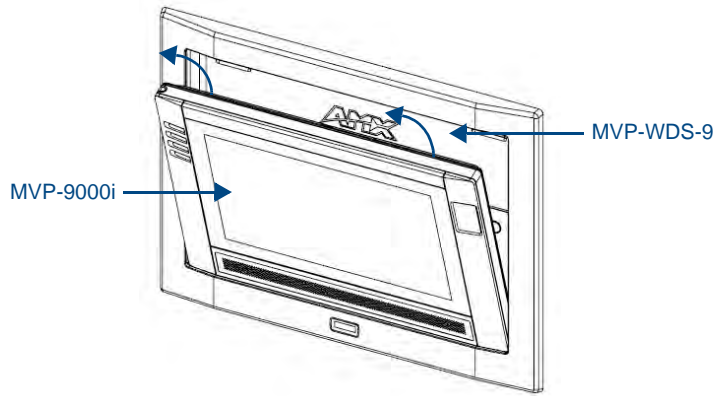

FIG. 10 Ejected position for the MVP-9000i
3. Wait for the Wall Docking Station to pivot the touch panel away from the wall (FIG. 10).
3. To release the touch panel, unlock the touch panel and wait for the Wall Docking Station to pivot the touch panel away from the wall (FIG. 10).